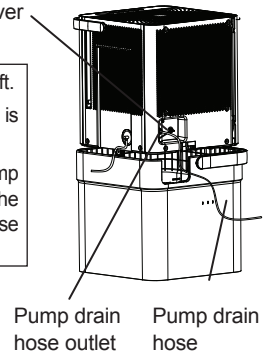

Fig. 10
- To install the pump hose, remove the plug from the pump drain hole and firmly attach the the included pump hose as shown in Fig. 10.